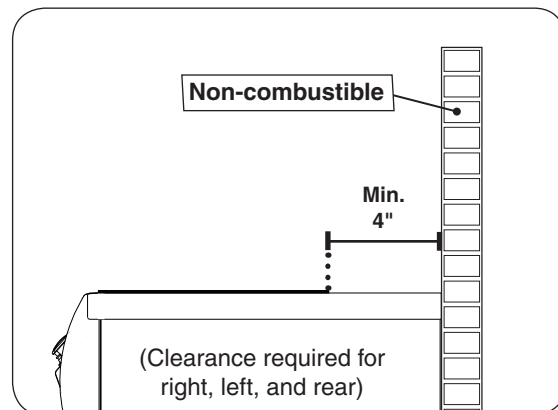

Fig. 9-1 Clearance 'A' Diagram
*(i.e. brick wall, see Fig. 9-1)*